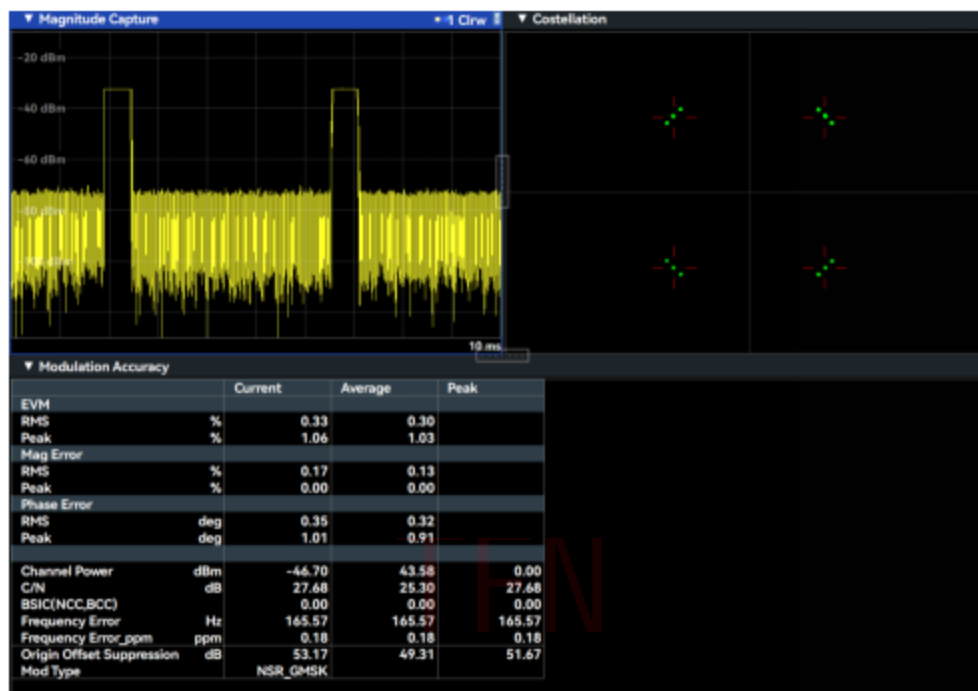

Figure 10.6 GSM signal test results
- Observation test results are shown in Figure 10.6: